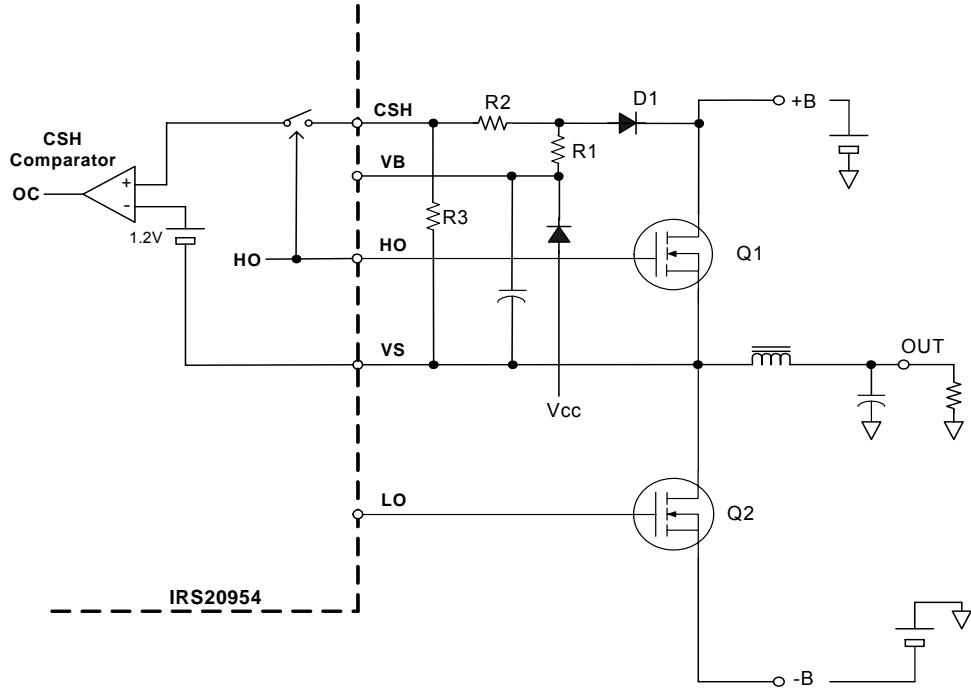

Figure 14: Programming High-side Over-Current Threshold
**With the configuration in Fig. 14, the voltage in CSH is:**
Fig. 14 demonstrates the typical peripheral circuit of high-side current sensing. For example, the over-current protection level is set to trip at 30 A with a MOSFET with  $R_{DS(ON)}$  of 100 mΩ, the component values of R2 and R3 are calculated as: